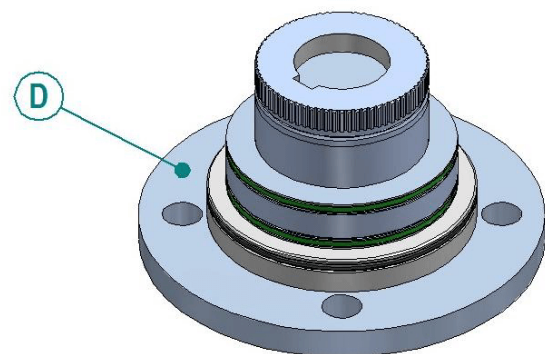

Figure 122: Valve Stem Assembled
2. It is recommended that flanges be sealed on assembly with silicon sealant. The face marked 'D' on Figure 122 and Figure 116 shows where sealant can be applied.